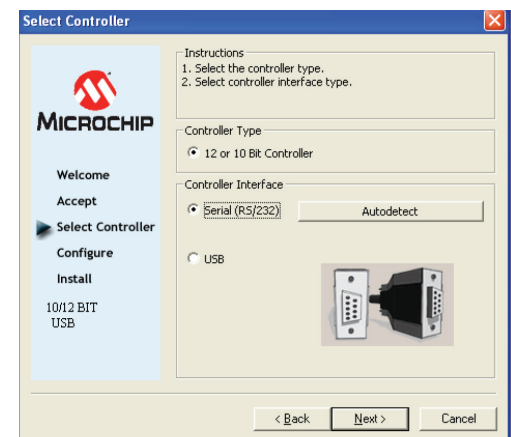

Figure 2
3. Select Next to continue the installation process (Figure 2)